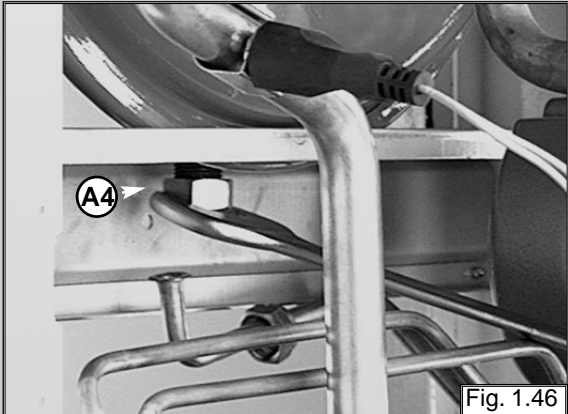

Fig. 1.46
2. Remove nut "A4" (see fig. 1.46);